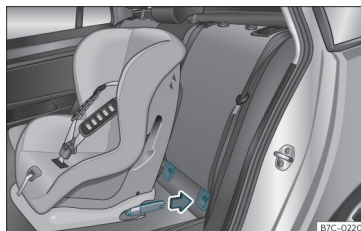

Fig. 26 Rear seats: fitting a child seat with the ISOFIX system.
- Press the child seat onto the “ISO-FIX/iSize” retaining rings until it is heard to engage securely»» Fig. 26. If the child seat is equipped with Top Tether* anchor points, secure it to the correspondent ring »» page 37. Follow the child seat manufacturer's instructions.